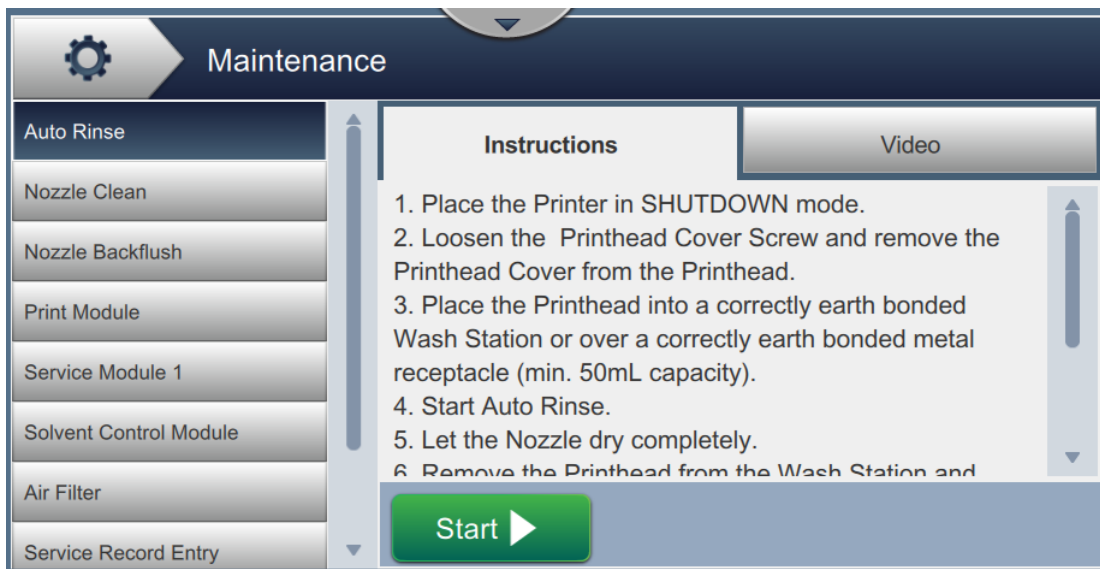

Figure 6-23: Maintenance
1. Touch the  button from the Tools screen. The Maintenance screen opens as shown in Figure 6-23.